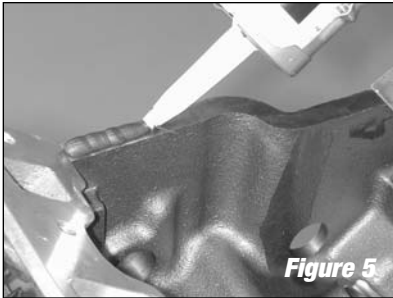

Figure 5
2. With the Edelbrock intake manifold, you must use RTV High Temp silicone sealer instead of end seal gaskets. Apply a 1/4" thick bead of sealant across each end seal surface **(See Figure 5)**.